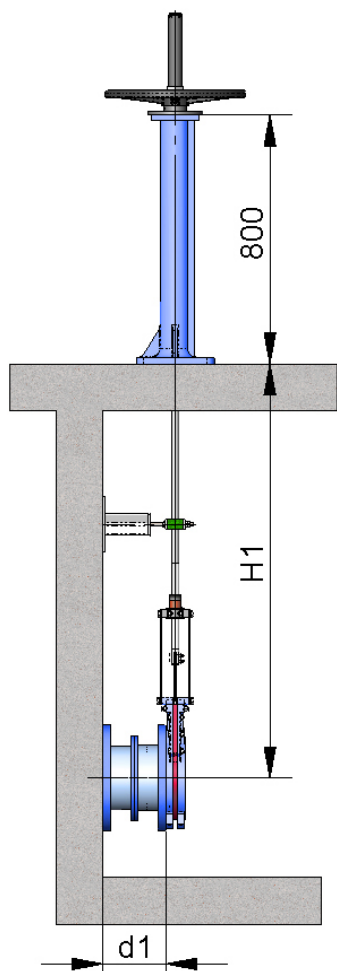

Fig. 11
- The standard floor stand is 800 mm high (Fig. 11). Other floor stand measurements available to order.